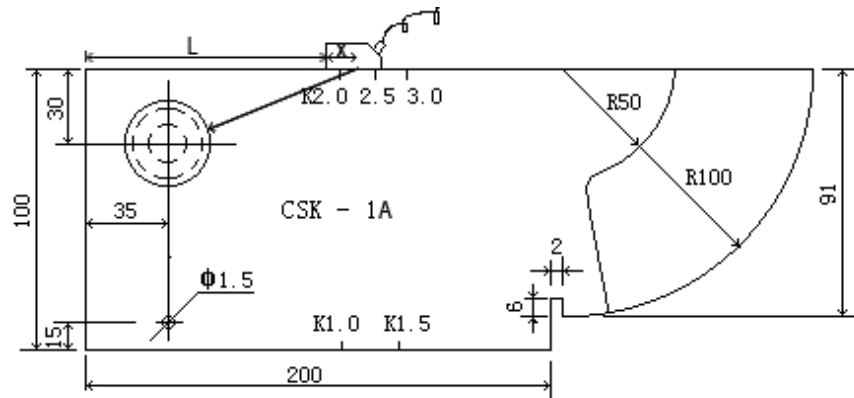
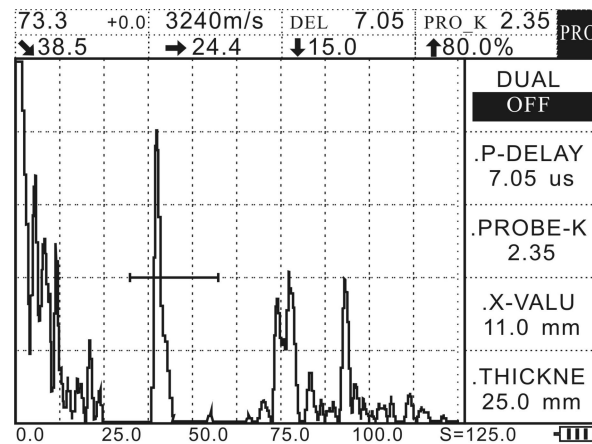

Figure 4-7
Figure 4-9
5. Calibrate the probe K value (angle): couple the probe to the CSK-IA test block and move it back and forth, as shown in Figure 4-7, till the reflection echo of the circle of $\phi 50\text{mm}$ reaches the highest level, use a steel ruler to measure L, and calculate K value according to $k=(L+X-35)/30$. As shown in Figure 4-9, press **PROBE** to enter the probe menu, press **▲** (up) or **▼** (down) to select the probe K value submenu, then press **◀** (left) or **▶** (right) to set the value as the K value calculated. As shown in Figure 4-9, or direct press **PEAK MEM** to calibrate the K value automatically.